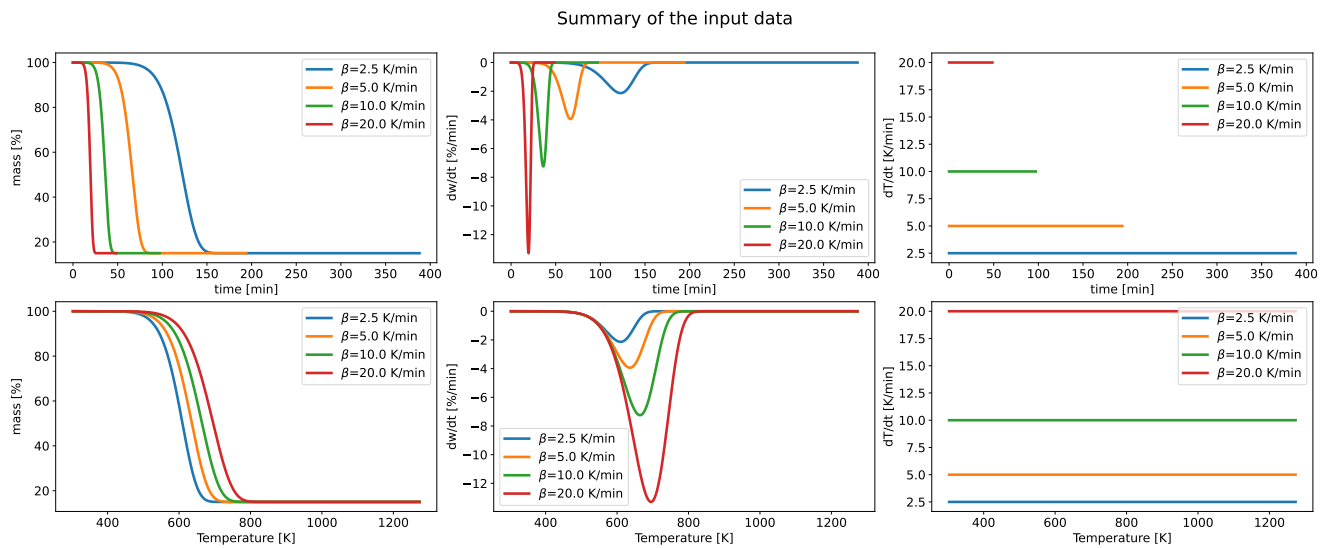

Figure 1.1: Results obtained from the `read_files` function. Top: time dependent data. Bottom: temperature dependent data.
The `read_files` function takes as obligatory parameter the list of paths to the data files and returns a `numpy`[ref] array of computed heating rates (B), another array containing the initial experimental temperature in K (T0) and a graphical summary of the experimental data (Fig. 1.1).